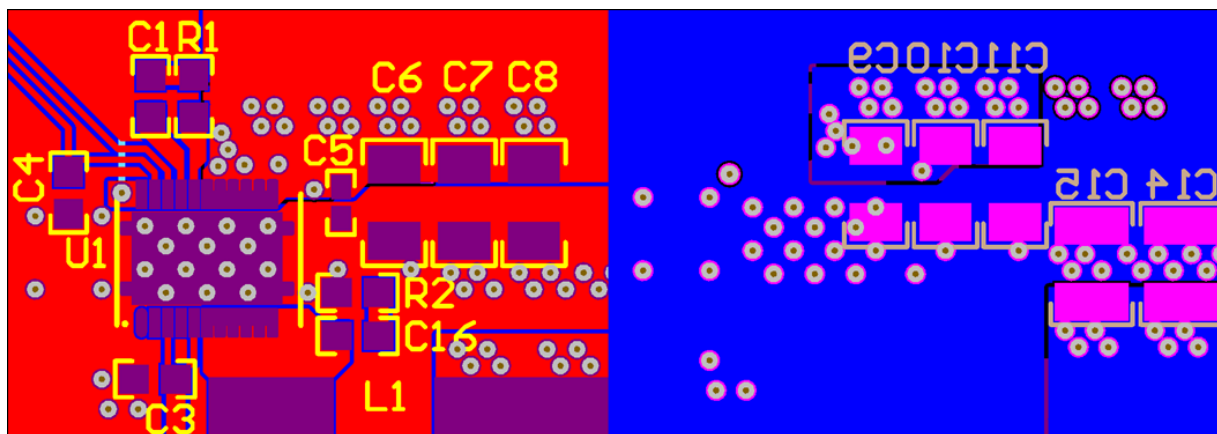

Figure 18. Recommended PCB Layout (Top-Down View)
- The placement of the input capacitors relative to V_{IN} and P_{GND} pins of CSD95373AQ5M device should have the highest priority during the component placement routine. It is critical to minimize these node lengths. As such, ceramic input capacitors need to be placed as close as possible to the V_{IN} and P_{GND} pins (see Figure 18). The example in Figure 18 uses 1 × 3.3 nF 0402 50 V and 6 × 10 μF 1206 25 V ceramic capacitors (TDK Part # C3216X7R1C106KT or equivalent). Notice there are ceramic capacitors on both sides of the board with an appropriate amount of vias interconnecting both layers. In terms of priority of placement next to the Power Stage C5, C8 and C6, C19 should follow in order.
(1) Keong W. Kam, David Pommerenke, "EMI Analysis Methods for Synchronous Buck Converter EMI Root Cause Analysis", University of Missouri – Rolla
- Use the smallest drill size allowed in your design. The example in Figure 18 uses vias with a 10 mil drill hole and a 26 mil capture pad.